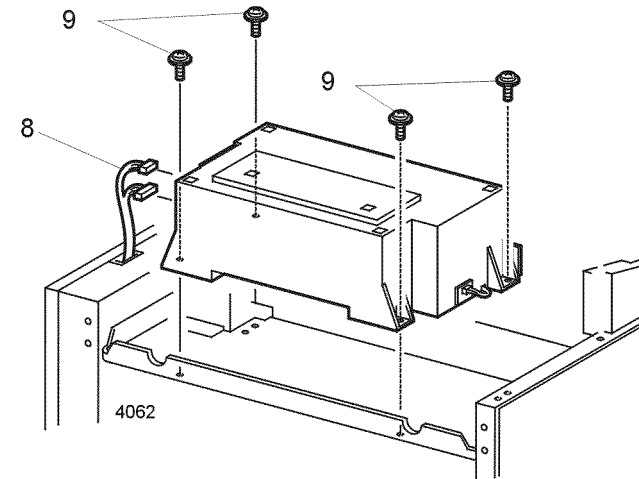

Figure 2 Laser Assembly
8. Disconnect P/J112 and the in-line connector P/J114 from the Laser Assembly (Figure 2).
9. Remove the four screws that secure the Laser Assembly to the printer (Figure 2).